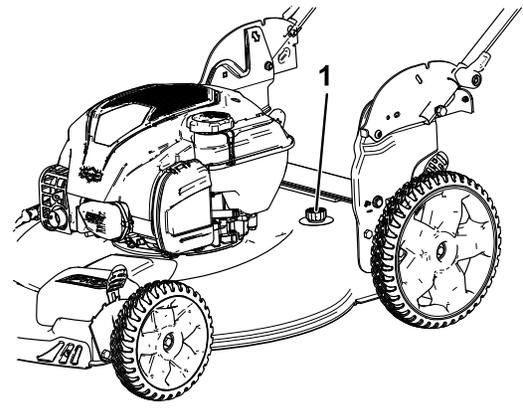

Figure 16
5. Attach a garden hose that is connected to a water supply to the washout port (Figure 16).